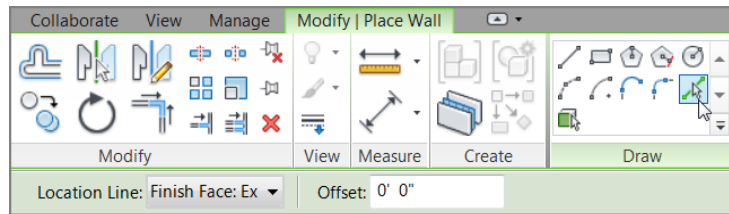

FIGURE 2.11: The Pick Lines icon lets you add a wall by using an offset from another object.
29. On the Draw panel, click the Pick Lines icon, as shown in Figure 2.11.